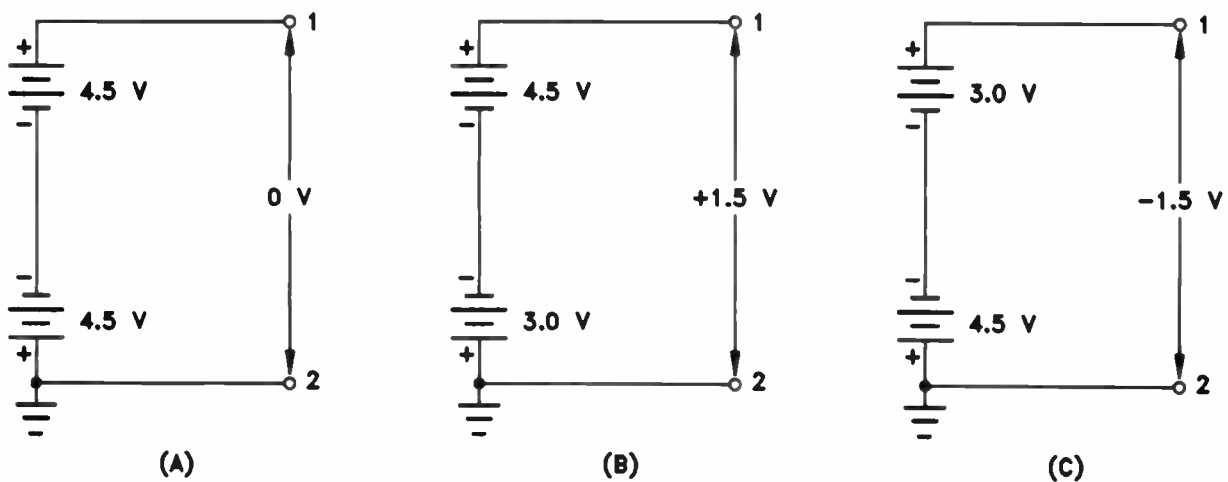

Figure 7. Batteries connected in series so their voltages subtract.
In Fig.7, we have three examples of batteries connected in series opposing. These batteries are connected so that their voltages oppose. To find the total voltage we subtract the battery voltages.
In Fig.7(A), each battery is a 4.5 V battery. When you subtract 4.5 from 4.5, the result is 0. Therefore, the potential between terminals 1 and 2 is 0 volts.
In Fig.7(B), we have batteries of unequal voltages. Subtracting the smaller voltage from the larger, we have $4.5 - 3.0 = 1.5$ volts. Since the positive terminal of the larger battery connects to terminal 1, terminal 1 will be 1.5 V positive.
In Fig.7(C), we have the opposite situation. The positive terminal of the 4.5 V battery connects to terminal 2. Therefore, terminal 2 is positive with respect to terminal 1, or, in other words, terminal 1 is 1.5 V negative.
- 4 Two batteries are connected as shown in Fig.7(B). One battery is a 45 V battery with its positive terminal connected to terminal 1, and the other battery is a 22-1/2 V battery with its positive terminal grounded. What is the voltage at terminal 1 with respect to ground?